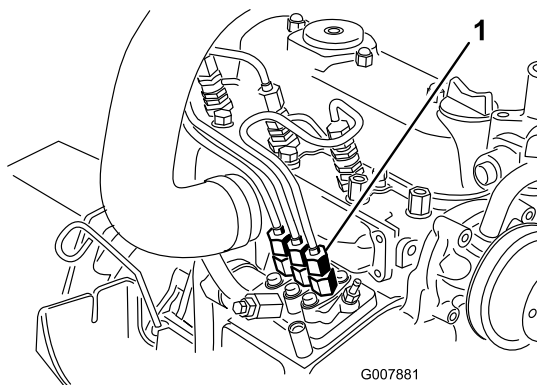

Figure 46
1. Place a rag under the pipe connection coming from the injection pump to the No. 1 injector nozzle as illustrated in Figure 46.